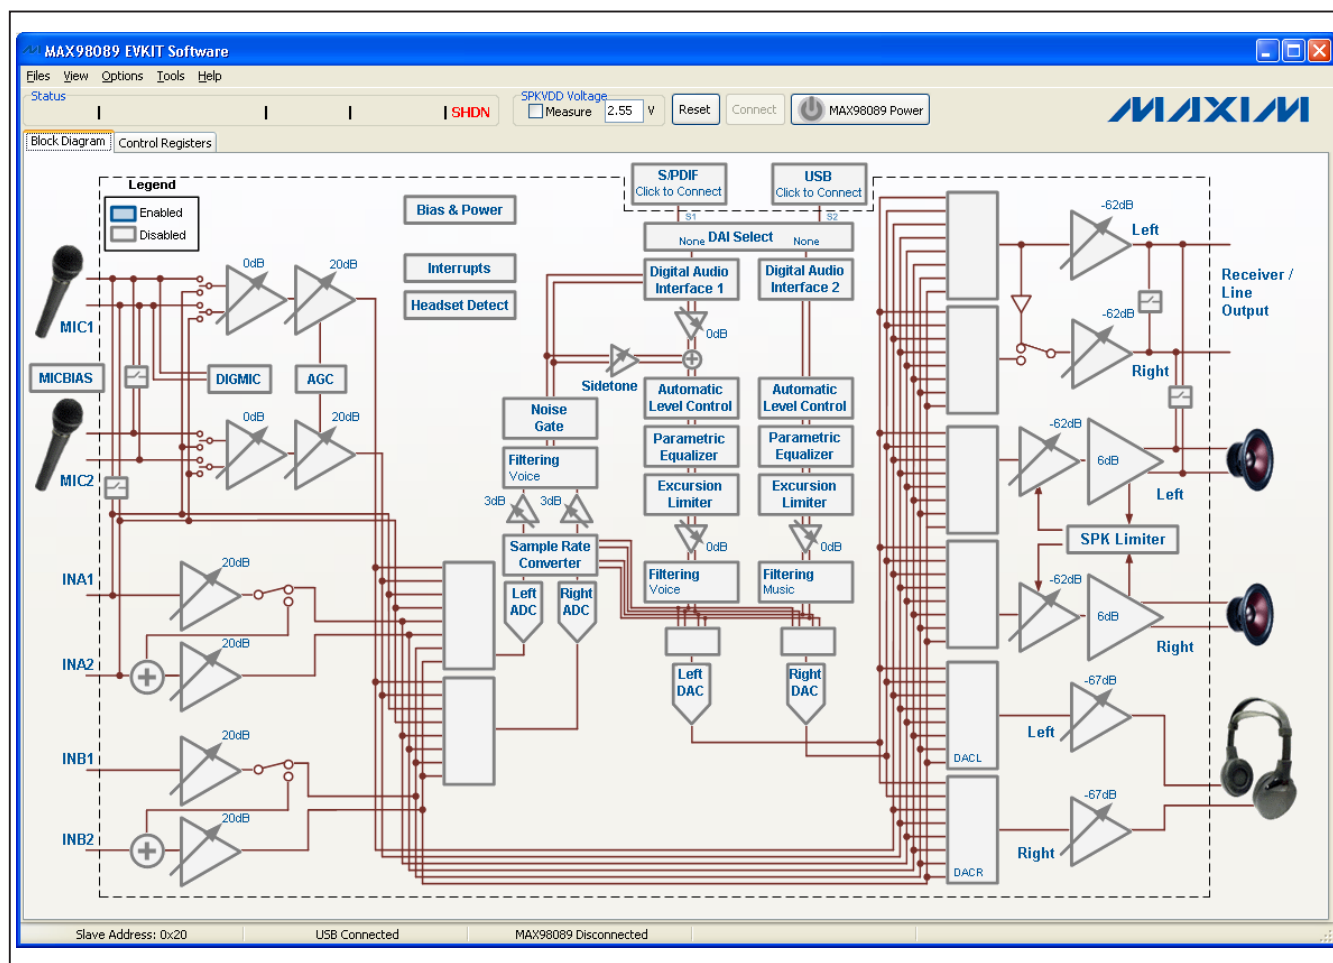

Figure 2. MAX98089 EV Kit Software Main Window (Block Diagram Tab)
- 8) Start the MAX98089 EV kit software by opening its icon in the **Start | Programs | Maxim EVKIT Software** menu. The EV kit software main window appears, as shown in Figure 2.
The MAX98089 EV kit software uses a block diagram interface to control all the functions of the MAX98089 audio codec. Click on blocks on the **Block Diagram** tab (Figure 2) to control various functions of the IC. Each block that represents multiple control options displays a dialog box containing all available controls for that block. Blocks that represent a single option toggle the enable of that function when clicked. Blocks colored grey are disabled while blocks colored blue are enabled. Click on the **MAX98089 Power** button to enable/disable the IC.